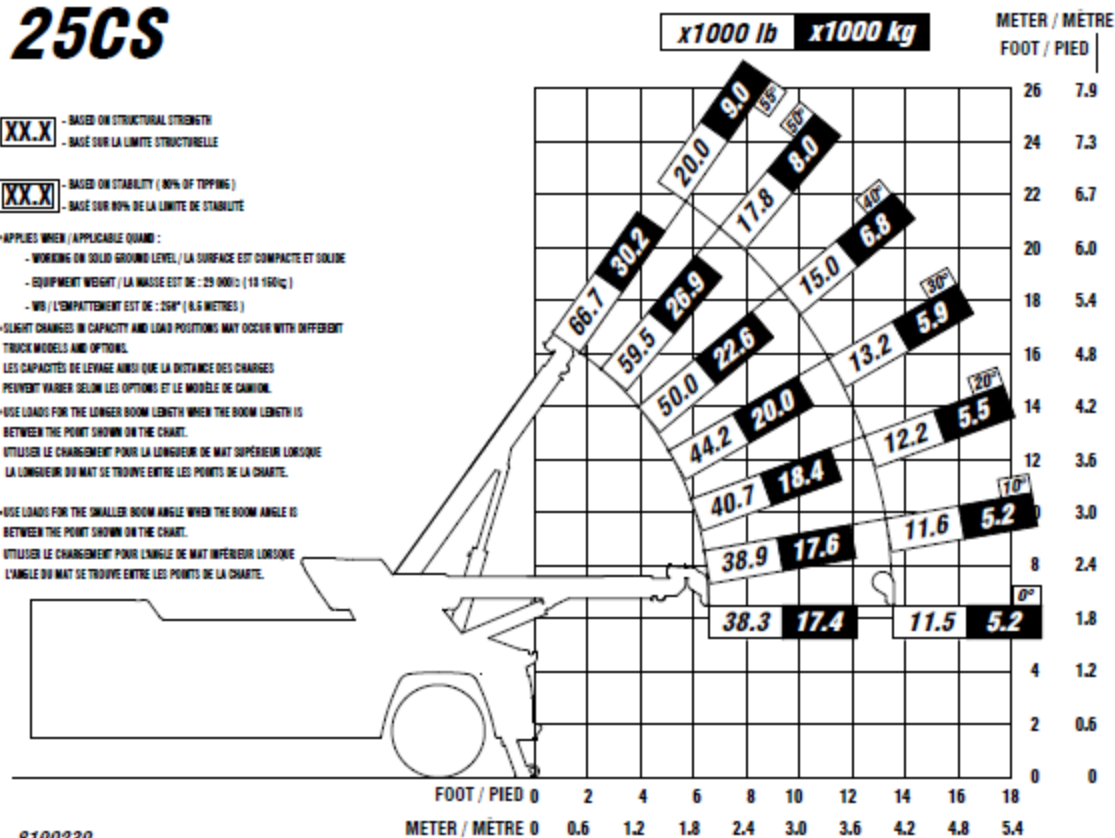

FIGURE 12 – LIFTING CAPACITY OF THE 25CS
- Figure 12 — Lifting Capacity of the 25CS